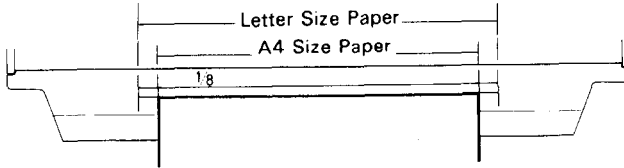

**Fig. 42 Form Position Setting Mark**
- b) If the cut paper sheet or form is not long enough to align the side edges, align the top edge of the paper with the form position setting mark on the tractor unit. (See Fig. 42.)